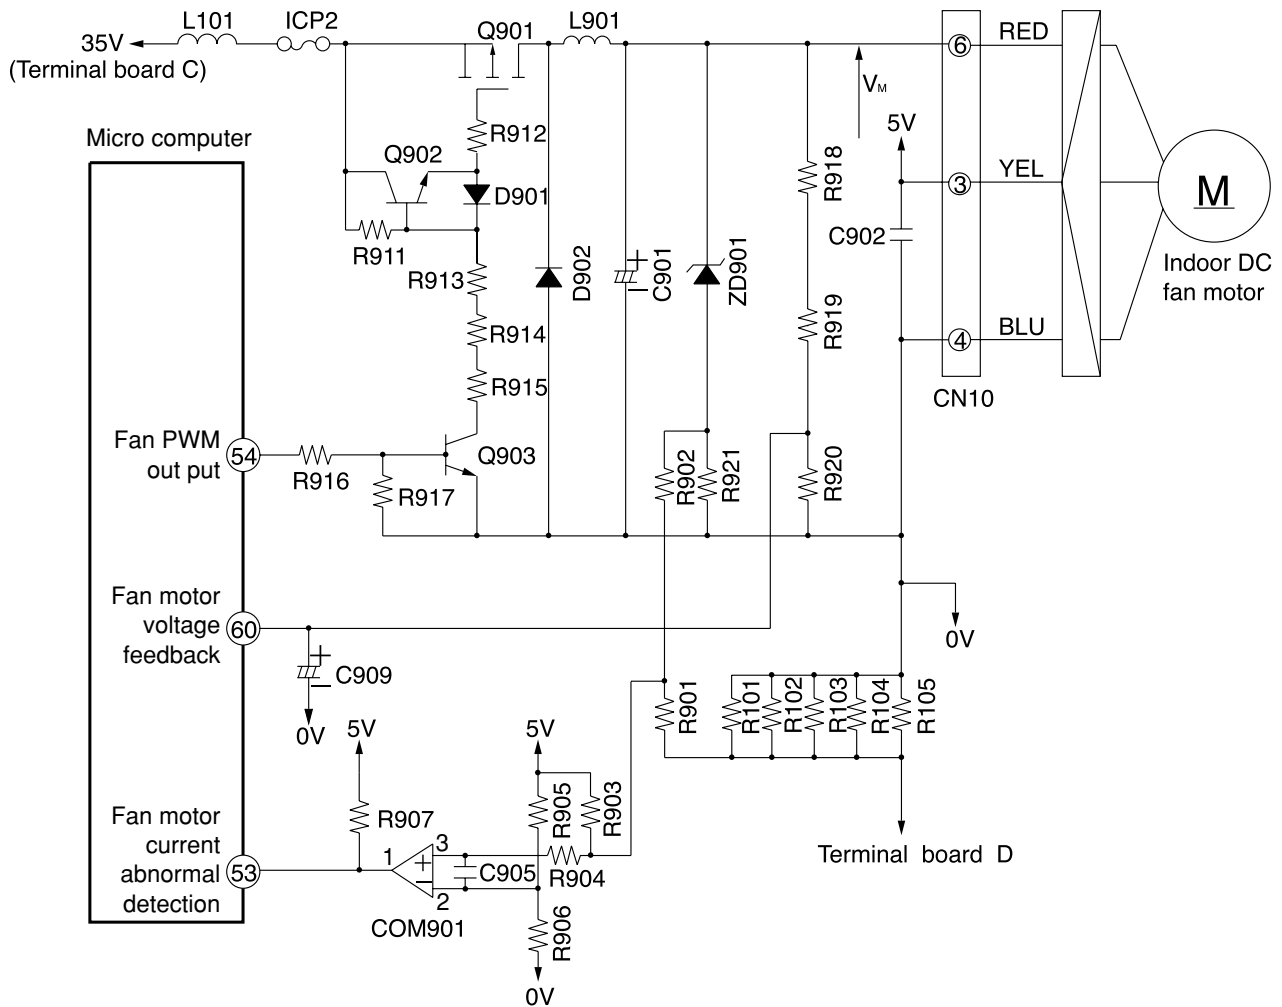

Fig. 12-1
- Fig. 12-1 shows the indoor DC fan motor drive circuit.